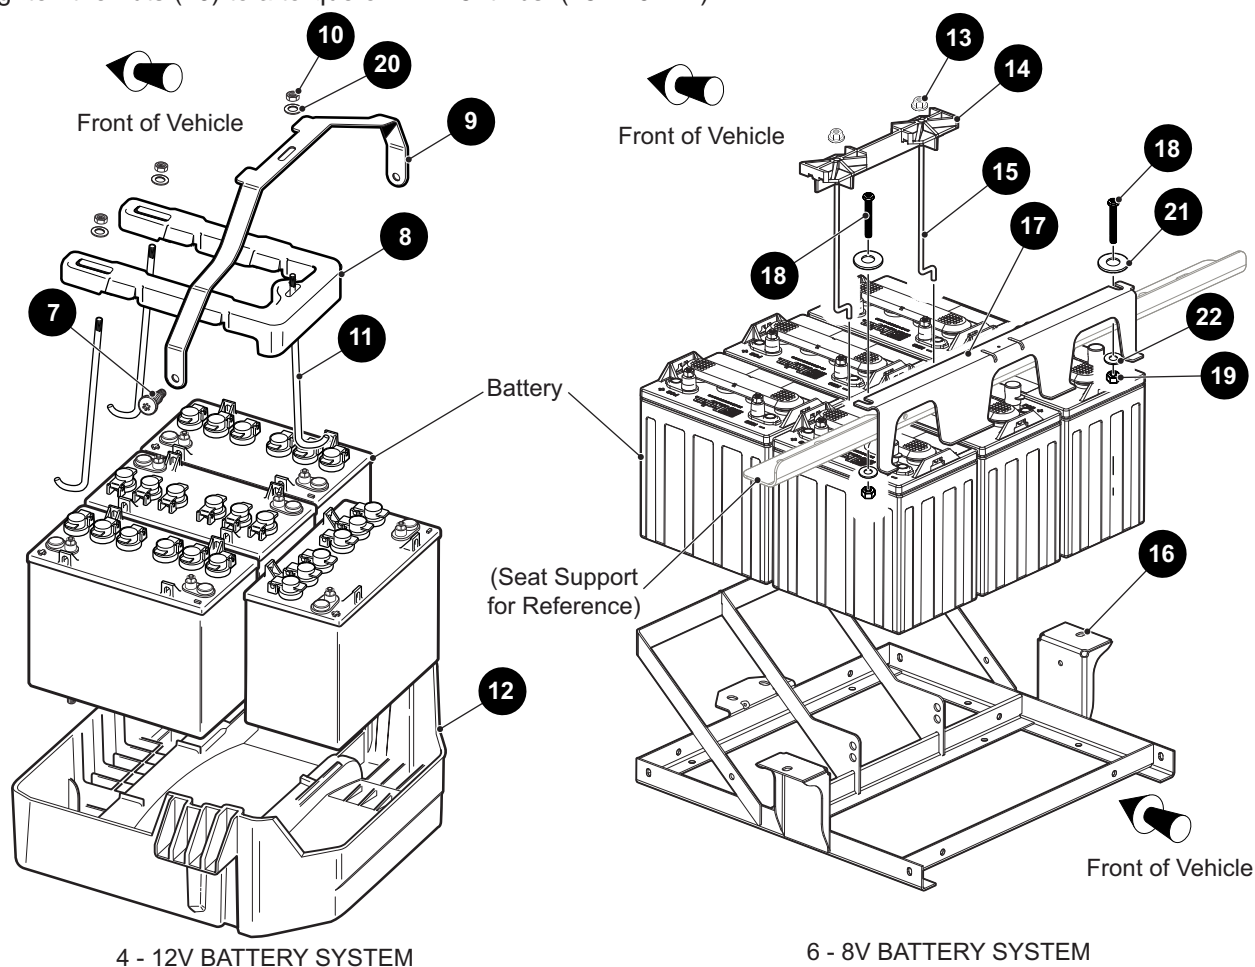

Figure 7 Battery Components
5. **4 - 12V Battery System:** Remove two pan head torx screws (7), (one on each side) from the battery strap (9) (Figure 7).
6. **4 - 12V Battery System:** Remove the battery hold down (8) and the battery strap (9) by loosening all three hex nuts (10), flat washers (20) until they are at the end of the J-bolt (11) and unhook the J-bolts from the battery tray (12). When you remove the J-bolts (11) from and between the batteries it can help to tilt the battery to the outside to release the pressure on the J-bolt (Figure 7).
9. **4 - 12V Battery System:** Replace the batteries, using the portable lifting device, starting with the battery located at the rear end of the battery tray (12), by making sure that it is positioned as shown (Figure 6) (Figure 7).
6 - 8V Battery System: Replace the batteries, starting with the battery (6) located at the rear end of the battery tray, by making sure that it is positioned as shown (Figure 6) (Figure 7).